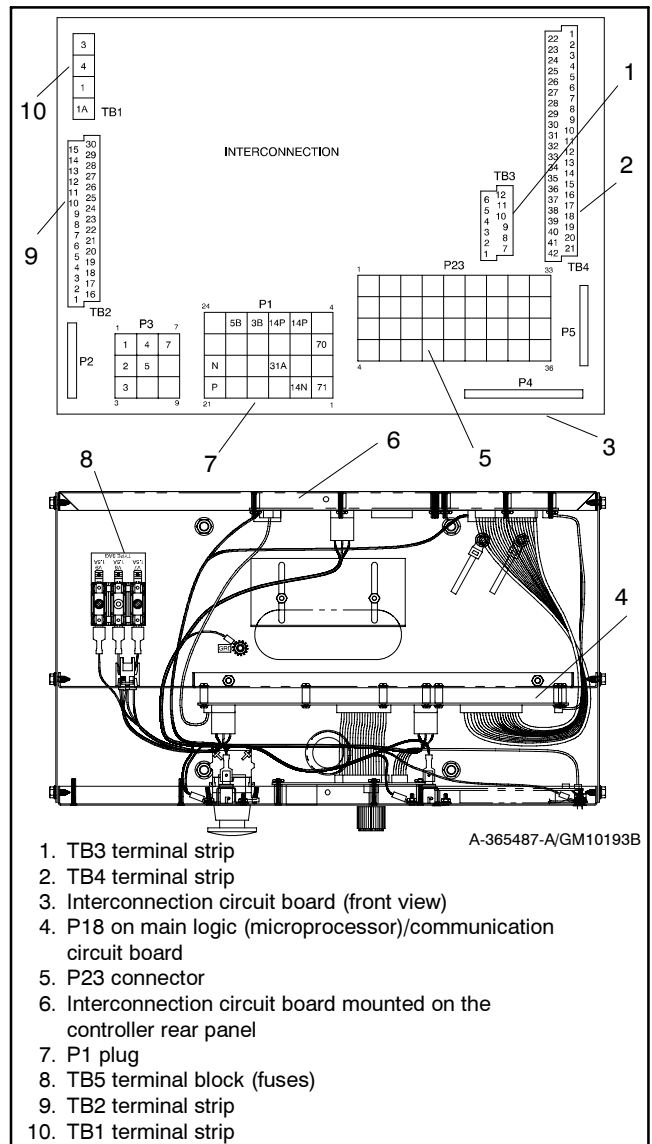

Figure 5-4 Disconnecting Controller Circuit Board External Wiring Connections
- a. Remove the controller cover. If access to the interconnection circuit board on the rear panel and/or the main logic/communication circuit board on the front panel is difficult to access, partially disassemble the controller box. Remove the two controller panel top screws and center bottom screw and then loosen the bottom screw on each side to swing the controller panel down. See Figure 5-4.
b. Disconnect the 550 controller harness leads. Listed below are some common leads and plugs that require removal or disconnection. Items below in **bold** are shown in Figure 5-4. These connections are typical and may not apply to all applications. See the corresponding wiring diagram found in the wiring diagrams manual.
a. Remove the controller cover. If access to the interconnection circuit board on the rear panel and/or the communication circuit board on the front panel is difficult, partially disassemble the controller box. Remove the two controller panel top screws and center bottom screw and then loosen the bottom screw on each side to swing controller panel down. See Figure 5-4.